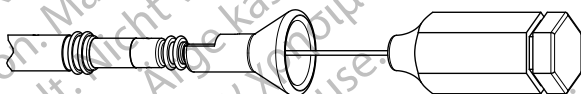

Figure 3. Insert the stylet
1. Insert the chosen stylet through the terminal pin or the stylet guide if using one (Figure 3 Insert the stylet on page 14).